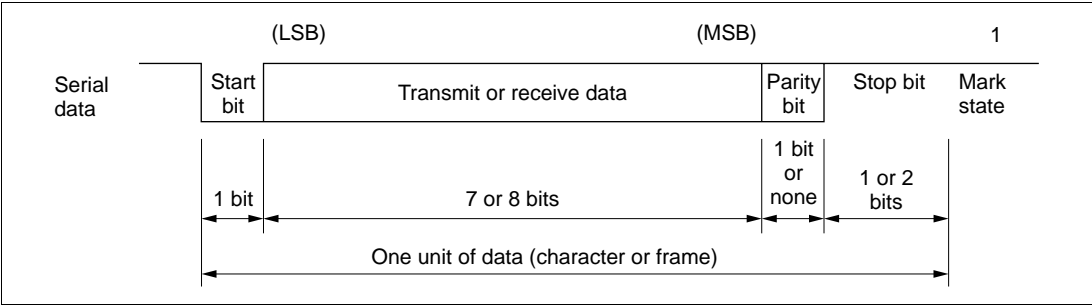

Figure 10.5 Data Format in Asynchronous Serial Communication Mode
(1) Transmit/Receive Formats: Figure 10.5 shows the general format for asynchronous serial communication.